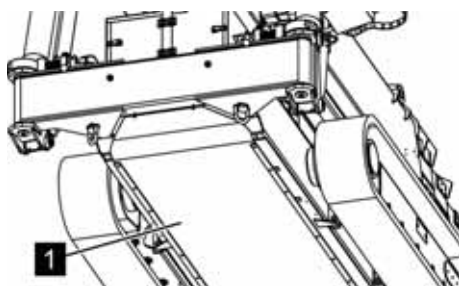

Fig. 144: Loosening the bottom plate
3. ➔ Unscrew the bottom plate (Fig. 144/1).